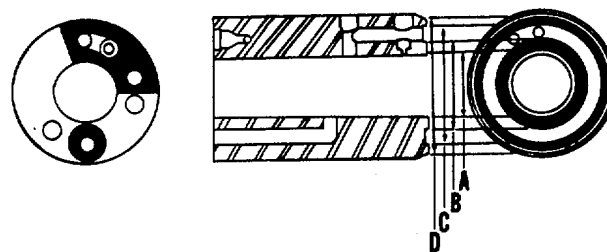

Fig. 6-1-24, F60191. Barrel surface at cup contact area
4. Check injector barrel surfaces for mutilation and flatness in black area as shown in Fig. 6-1-24.